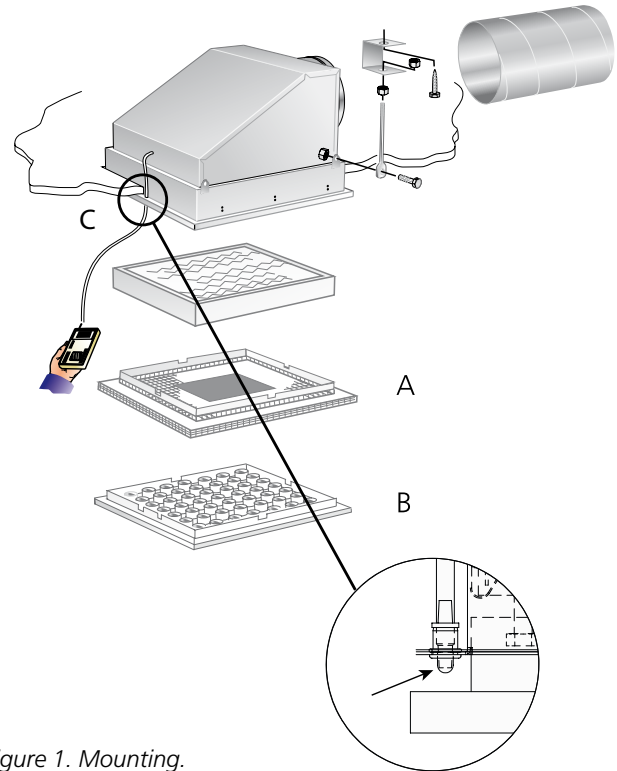

Figure 1. Mounting.
- There are four hanging eyes for suspended installation. See Figure 1, 4 & 6
- It's important that all four hanger brackets are on the same horizontal plane (± 1.0 mm) to ensure that the filter fits tightly. See figure 1.
- The pressure drop across the filter is measured in the measurement tapping on the diffuser backing box flange and is measured in relation to atmospheric pressure, see figure 1.